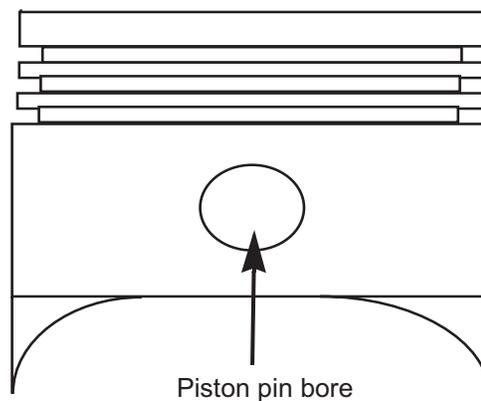

Figure 10.12
8. Measure the piston pin bore on both sides of the piston using telescoping gauges or vernier caliper. See Figure 10.12.